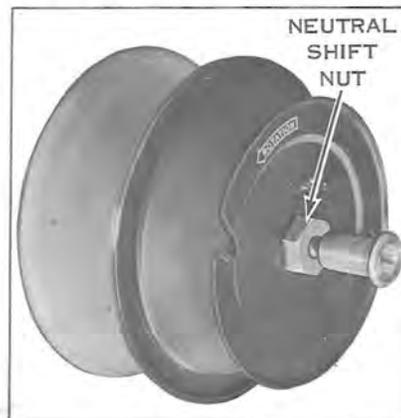

Figure 9-5
- a. Unscrew neutral shift nut from main shaft and sheave assembly, and remove neutral lock-out assembly (see Figure 9-5). Remove end cap and sliding sheave from main shaft.